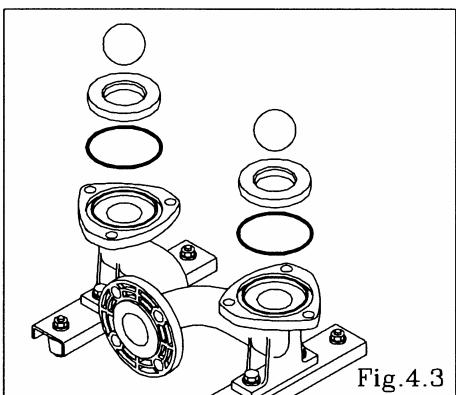

Fig.4.3
- Remove the ball, valve seat and O ring. [Fig.4.3]